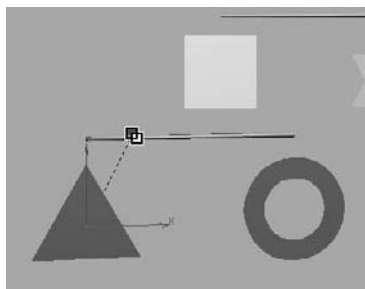

Figure 2.36
1. Remember, the Select and Link tool works from the children up the hierarchy to the top parent. You will link the shapes to their respective bars up the mobile. Click the Select and Link tool () and then select the triangle. Drag the cursor to its bar, as shown in Figure 2.36. The triangle is now linked to the bar above it.